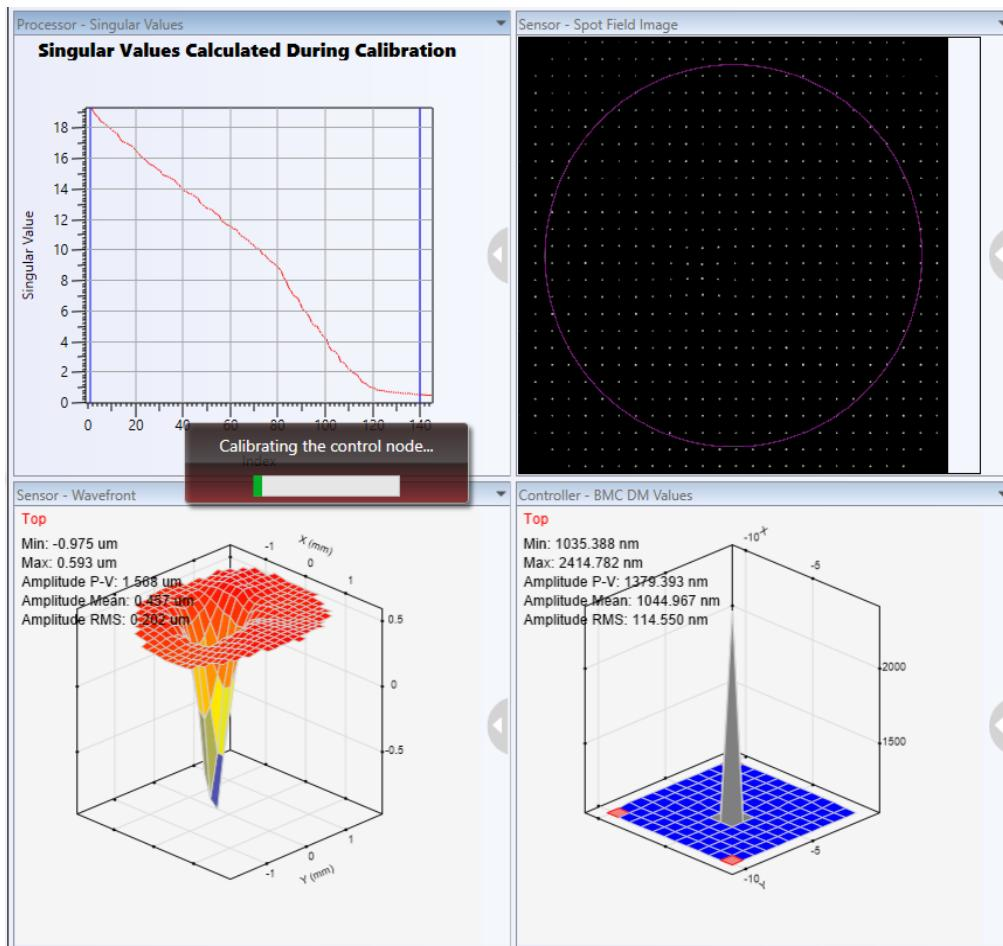

Figure 175 AOKit calibration process
- 2) After initiating the calibration, a spike should be seen on the DM surface, as displayed in Figure 175